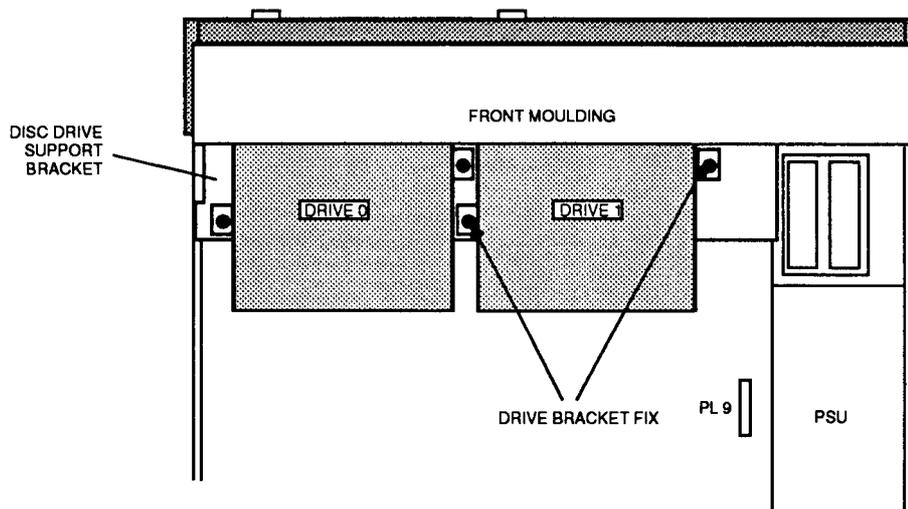

Fig. 4 - Installing the new Drive 1
12. Insert the 16 RAM ICs into the two banks of 8 sockets IC51 - 58 and IC60 - 67 on the main board with the notches (for pin 1) in the ICs facing the rear panel. Ensure that all the pins have entered the sockets and that none are splayed out or bent underneath (see fig. 4).
2. Stand the unit back on its feet and unplug the LED/speaker connector PL9 from the main board (see Fig. 4). Grasp the front moulding assembly at each end and use a straight, steady pull to withdraw it from the front of the unit.